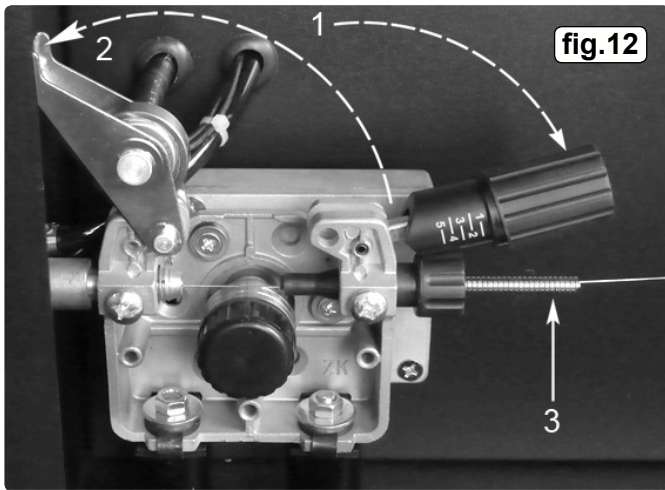

fig.12
- 4.9. **FEED WIRE THROUGH TO TORCH.** Referring to fig.12 open the wire feed mechanism by pushing the locking/wire tension knob (1) down to the right allowing the pressure roller carrier (2) to spring up revealing the feed roller. Ensure that the required feed groove (0.6 or 0.8) is in line with the wire path. See Section 4.12 on how to reverse or change the roller.
- 4.12.1 Referring to fig.12, open the wire feed mechanism by pushing the locking/wire tension knob (1) down to the right allowing the pressure roller carrier (2) to spring up revealing the feed roller.
- 7.5. **GAS CUP** The gas cup must also be kept clean and free from spatter. Build up of spatter inside the gas cup can cause a short circuit at the contact tip which will result in either the fuse blowing on the printed circuit card, or expensive machine repairs. To keep the contact tip free from spatter, we recommend the use of Sealey anti-spatter spray (MIG/722308) available from your Sealey Dealer. Refer to fig.12 and section 4.9 for removal and replacement.